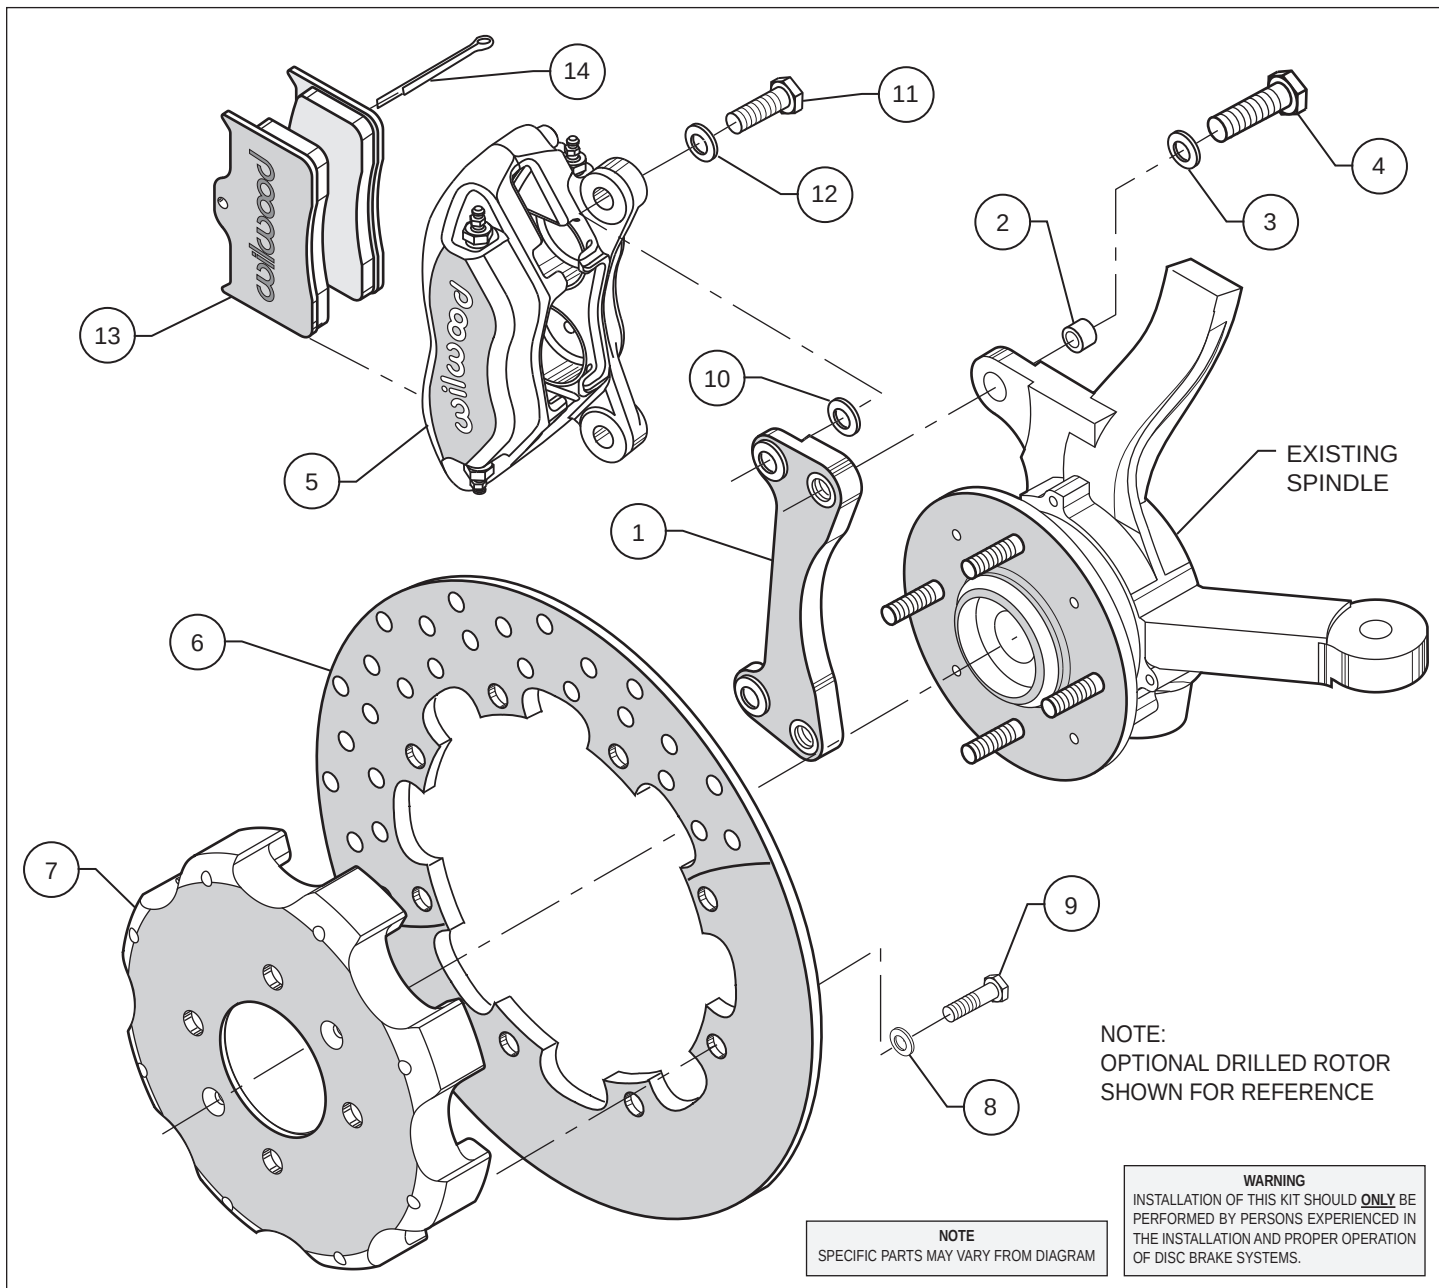
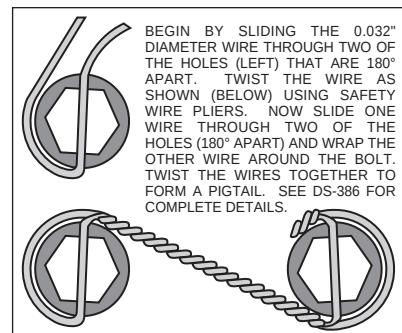

Figure 3. Typical Installation Configuration, Left Hand Application Shown
Figure 4. Safety Wire Diagram
- Insert one sleeve (2) each into the holes on the top and bottom of the spindle “ears” where the OEM caliper bracket was removed. Apply red *Loctite*® 271 to the caliper mounting bracket bolt threads (4) before installation of the caliper mounting bracket (1). Install the caliper mounting bracket (1) with the threaded inserts and the beveled bolt holes facing the outside of the vehicle. Slide bolt (4) through washer (3) into the previously installed sleeve (2) from the backside of the spindle. Finger tighten. Repeat for the lower mounting hole. Torque bolts to 40 ft-lb. **NOTE:** Be sure the heads of the caliper bracket (1) insert nuts are facing outward toward the wheel.
- Attach the hat (7) to the rotor (6) using washers (8) and bolts (9) as shown in Figure 3. Using an alternating sequence, apply red *Loctite*® 271 to the threads and torque bolts to 25 ft-lb. For an added measure of security, the bolts may be safety wired using standard 0.032 inch diameter stainless steel safety wire as shown in Figure 4. Please refer to Wilwood's data sheet DS-386 (available at [www.wilwood.com/Pdf/DataSheets/ds386.pdf](http://www.wilwood.com/Pdf/DataSheets/ds386.pdf)) for complete safety wire installation instructions. Slide the rotor/hat assembly onto the spindle. Install three lug nuts (finger tighten) to keep the rotor/hat assembly in place while continuing with the installation.